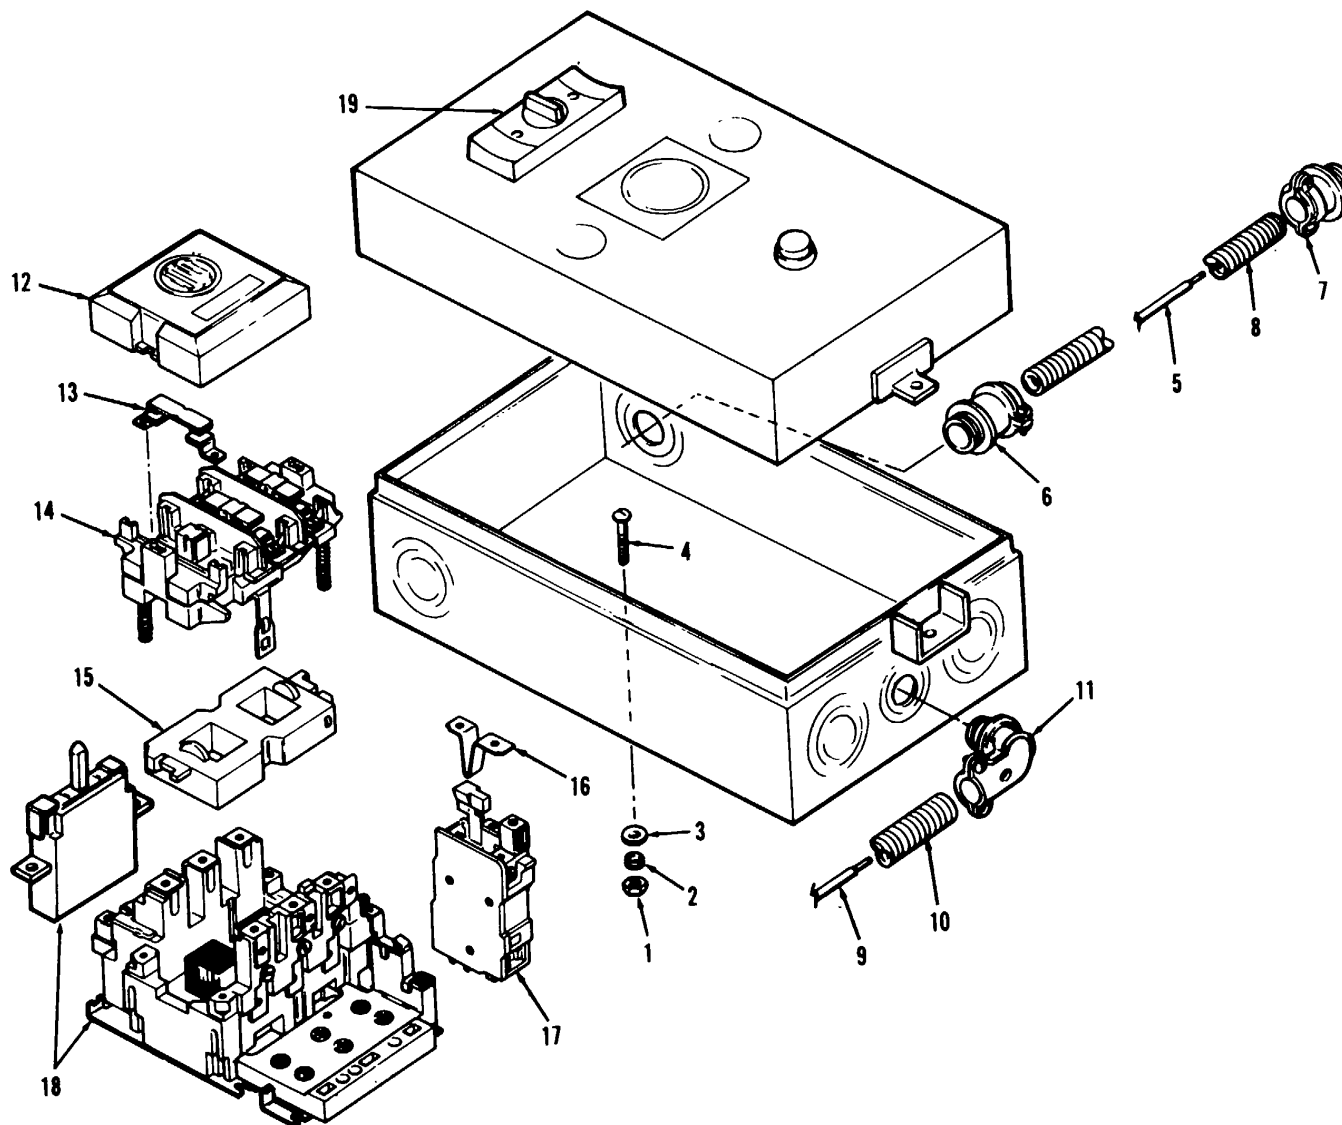

Figure 5-2. Magnetic starter assembly, exploded view.
- d. Use figure 5-2 as a guide and disassemble the magnetic starter assembly as follows:
- (1) Remove connector (6) and (11) from the magnetic switch box.
- (2) Remove nut (1), lockwasher (2), flatwasher (3), and capscrew (4) and remove the control box.
- (3) Remove contact cap (12), contact kit (13), contact carrier (14), operating coil (15), coil heater (16), overload relay (17), and interlock assembly (18).
- (4) Replace any defective part.
- (5) Replace interlocking assembly (18), overload relay (17), coil heater (16), operating coil (15), contact carrier (14), contact kit (13), and contact cap (12).
- (6) Replace the magnetic control box with capscrew (4), flatwasher (3), lockwasher (2), and nut (1).
- (7) Replace connector (11) and (6) to the magnetic control box.